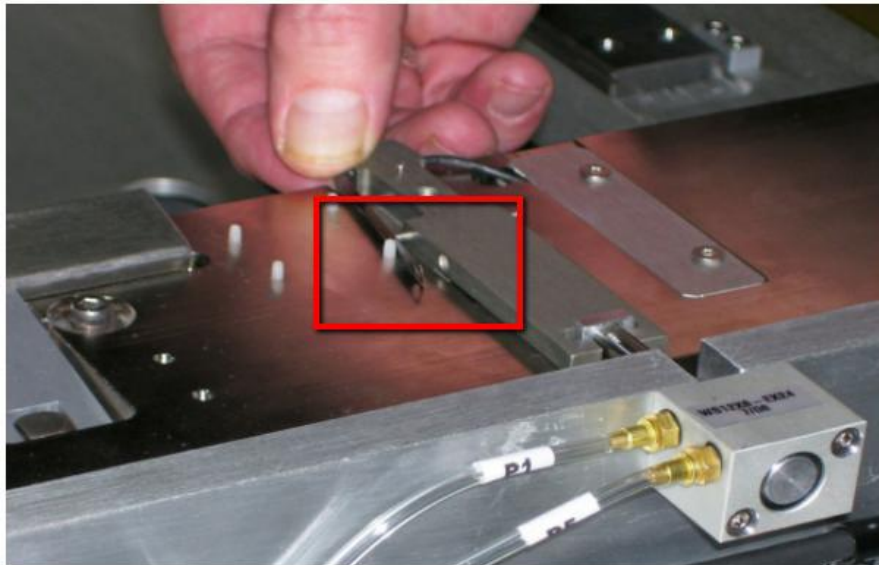

Figure 2 PIP Flag Removal
4. Gently remove PIP Flag from PIP Board stop Locating Pin. May refer to below Figure 2.
5. Insert the new PIP Flag by sliding it onto the Flag Locating Pin. May refer to below Figure 2.